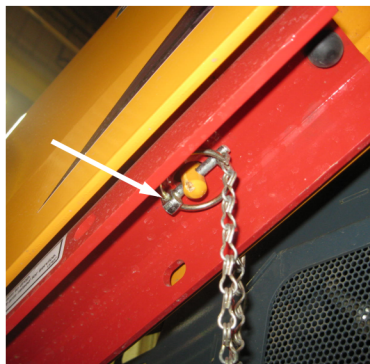

Figure 4 Lift Arm Support Device Storage Location
3. Have an assistant remove the lift arm support device from its storage location (Figure 4) on the left side of the machine. Remove the lynch pin holding the support device up against the lift arm. Allow the support device to come down into contact with the lift cylinder (Figure 3).
5. To store the support device, have an assistant raise it up until it contacts the lift arm. Reinstall the lynch pin through the welded steel post on the lift arm (Figure 4).